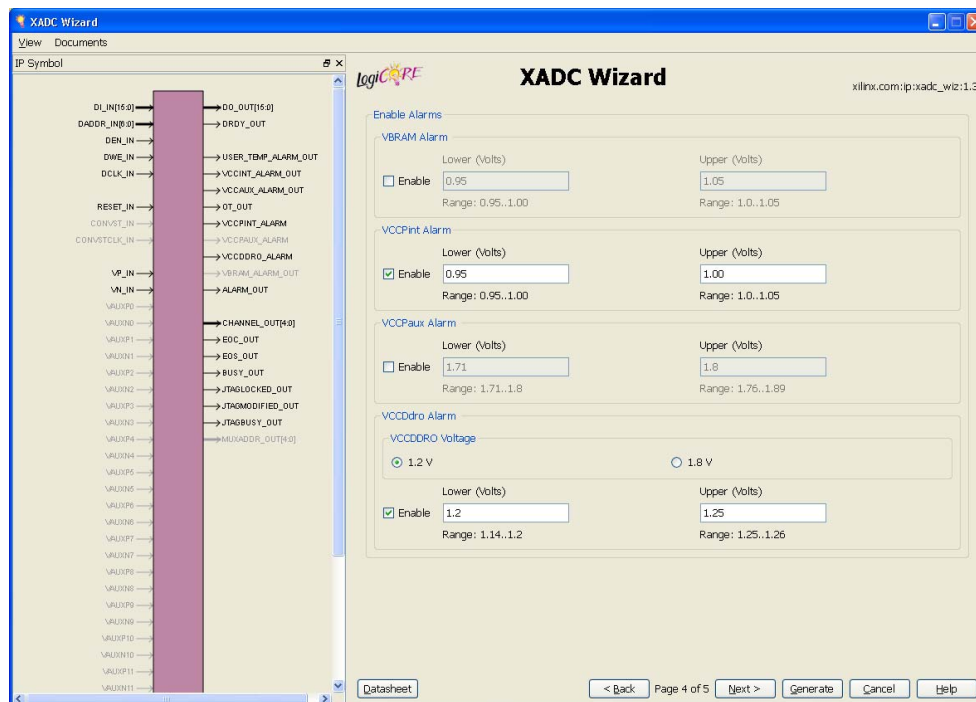
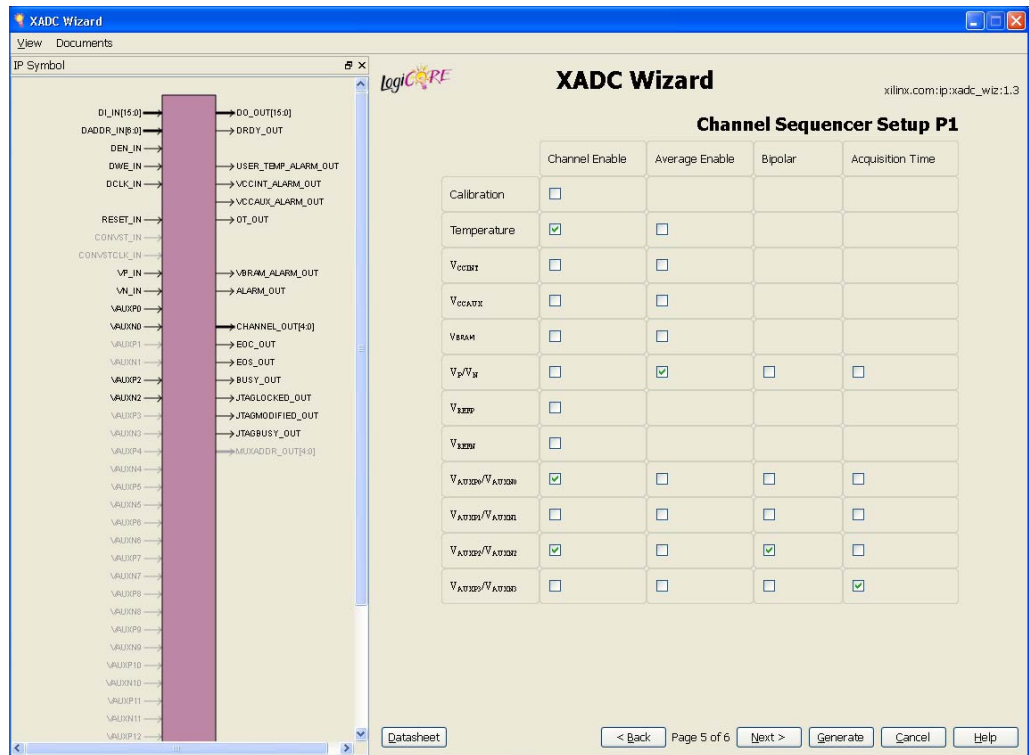

Figure 3-7: Alarm Setup (for Zynq) - Page 4
Figure 3-8: Channel Sequencer Setup P1 - Page 5
- **Channel Sequencer:** Choosing this mode, allows you to select any number of channels to monitor. The channels to be used for this mode can be selected on Page 4 (Figure 3-7) and Page 5 (Figure 3-8) of the Wizard.
Channel Sequencer Setup P1 (Figure 3-7) and Setup P2 (Figure 3-8) screens of the Wizard are used to configure the XADC sequence registers when the XADC is configured in Channel Sequencer, Simultaneous sampling or Independent ADC mode. All the possible channels that can be included in the sequence are listed in the table spread across screens 5 and 6 (Figure 3-7 and Figure 3-8) of the Wizard: